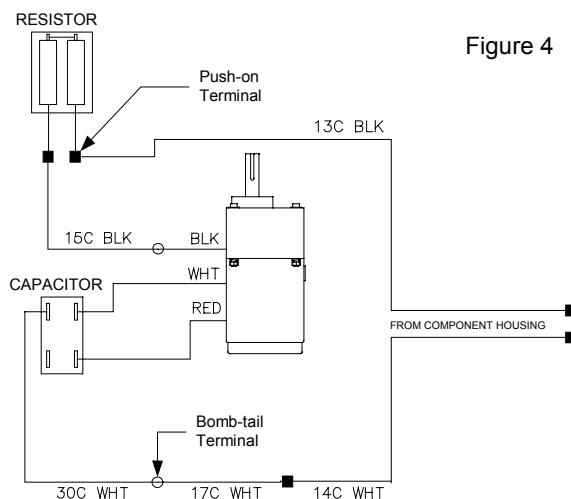

Figure 4
10. Position the new motor in the base and use the four nuts removed in Step 7 to secure it in place. Connect the remaining resistor wire to the black wire (13C) disconnected in Step 7. Connect the white wire (17C) from the capacitor to the white wire (14C) disconnected in Step 7. See Figure 4.